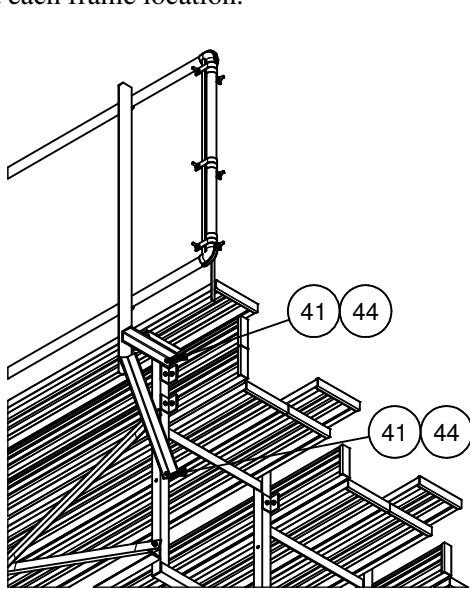

Figure 9
16. Install the side rail weldments onto the ends of the bleacher. Locate one vertical on the top row and on the 4th row. Position the verticals as shown in figure 9. Using the holes in the angles, drill the four 3/8" holes through the seat plank (2 holes) and the foot planks (2 holes). Attach the verticals using the 3/8" x 2.5" hex bolts and 3/8" whizlock nuts. Make sure the clamp plate is placed on the underside of the plank before installing the nuts. Tighten all bolts and nuts securely.